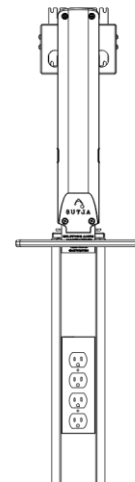

Figure 6: Reassembled Cameo.
7. Reverse steps 3 then 2, reattaching the worksurface, then reattaching the monitor mount. Add all needed technology to the cart, and if added item is a plug strip, wire components as needed. The remaining piece of plastic cable covering can be snapped into place on the channel to conceal wires after routing is complete. See Figure 6.